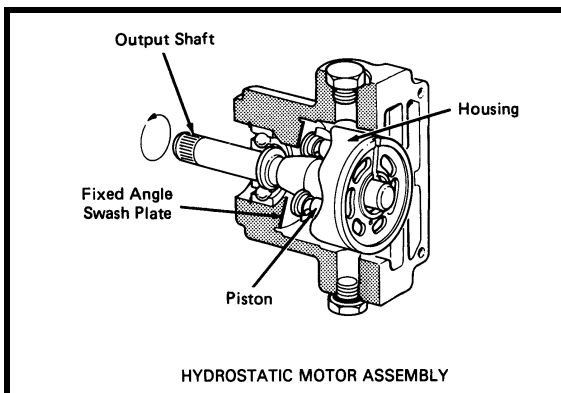

Figure 9
**Hydrostatic motor. (Fig 9)**